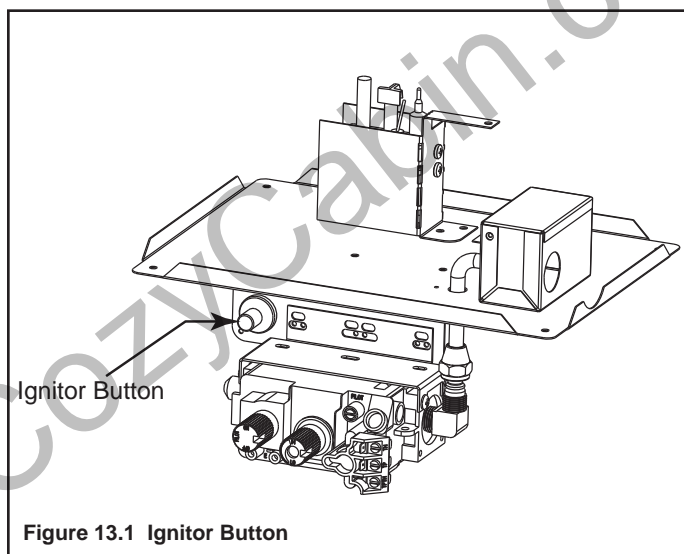

Figure 13.1 Ignitor Button
- A red or black ignitor button (as shown in Figure 13.1) indicates this appliance is standing pilot ignition.